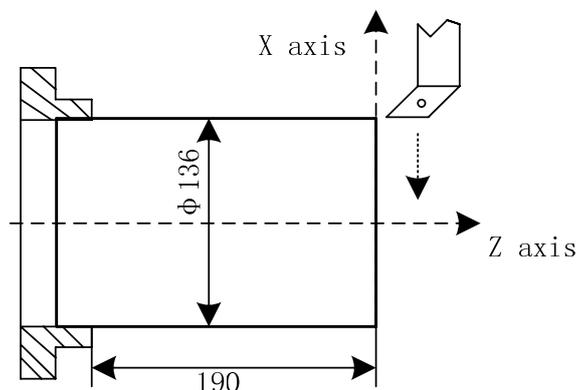

Fig.10-6
- (1) The tool traverses to the safe position; in MDI mode, the system executes T0100 and cancels the tool offset on the program window;
- (2) The tool traverses and cuts along the work piece face as shown in Fig.10-6;